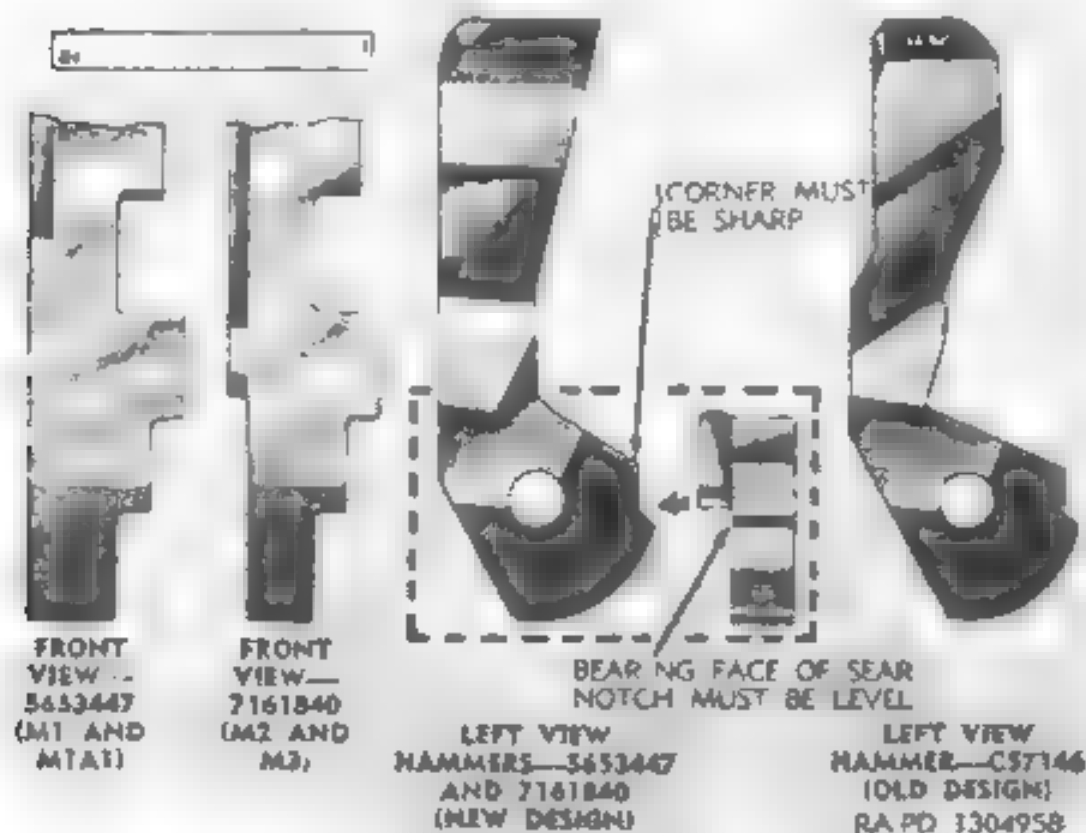

Figure 49 Old and new design hammers for carbines M1, M1A1, M2 and M3.
- (2) *Field or depot maintenance* Where comparators are not available check hammer for worn pinhole, burred or dented face or bolt cam, worn or burred plunger retaining slot, burrs, and rust. Check to see that cocking cam is in good condition and that the corner of the sear notch is not rounded or broken. This corner must be reasonably sharp. Any evidence that the sear notch has been stoned is cause for rejection. Bearing face of sear notch should be level as determined by visual check (fig 49). Inspect hammer pin for wear and burrs, hammer for looseness on pin, and pin for looseness in trigger housing. Movement of hammer or pin should be free, but without shake. Inspect trigger housing, at point of contact with stop lug or left face of hammer, for wear and burrs.
Note. Replace early design hammer C57146 with hammer 8653447 of recent design (fig 49).